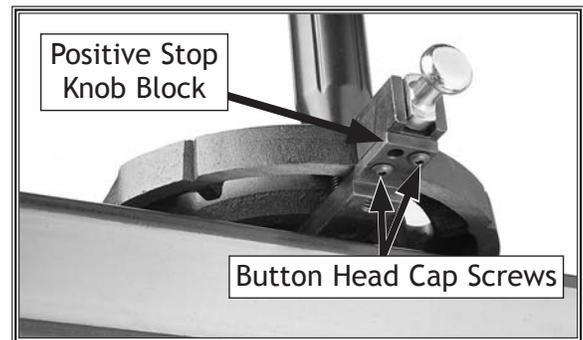

Figure 127. Screws for adjusting miter body.
5. Loosen button head cap screws on positive stop knob block (see **Figure 127**), adjust miter body until it is flush with square, then tighten screws.